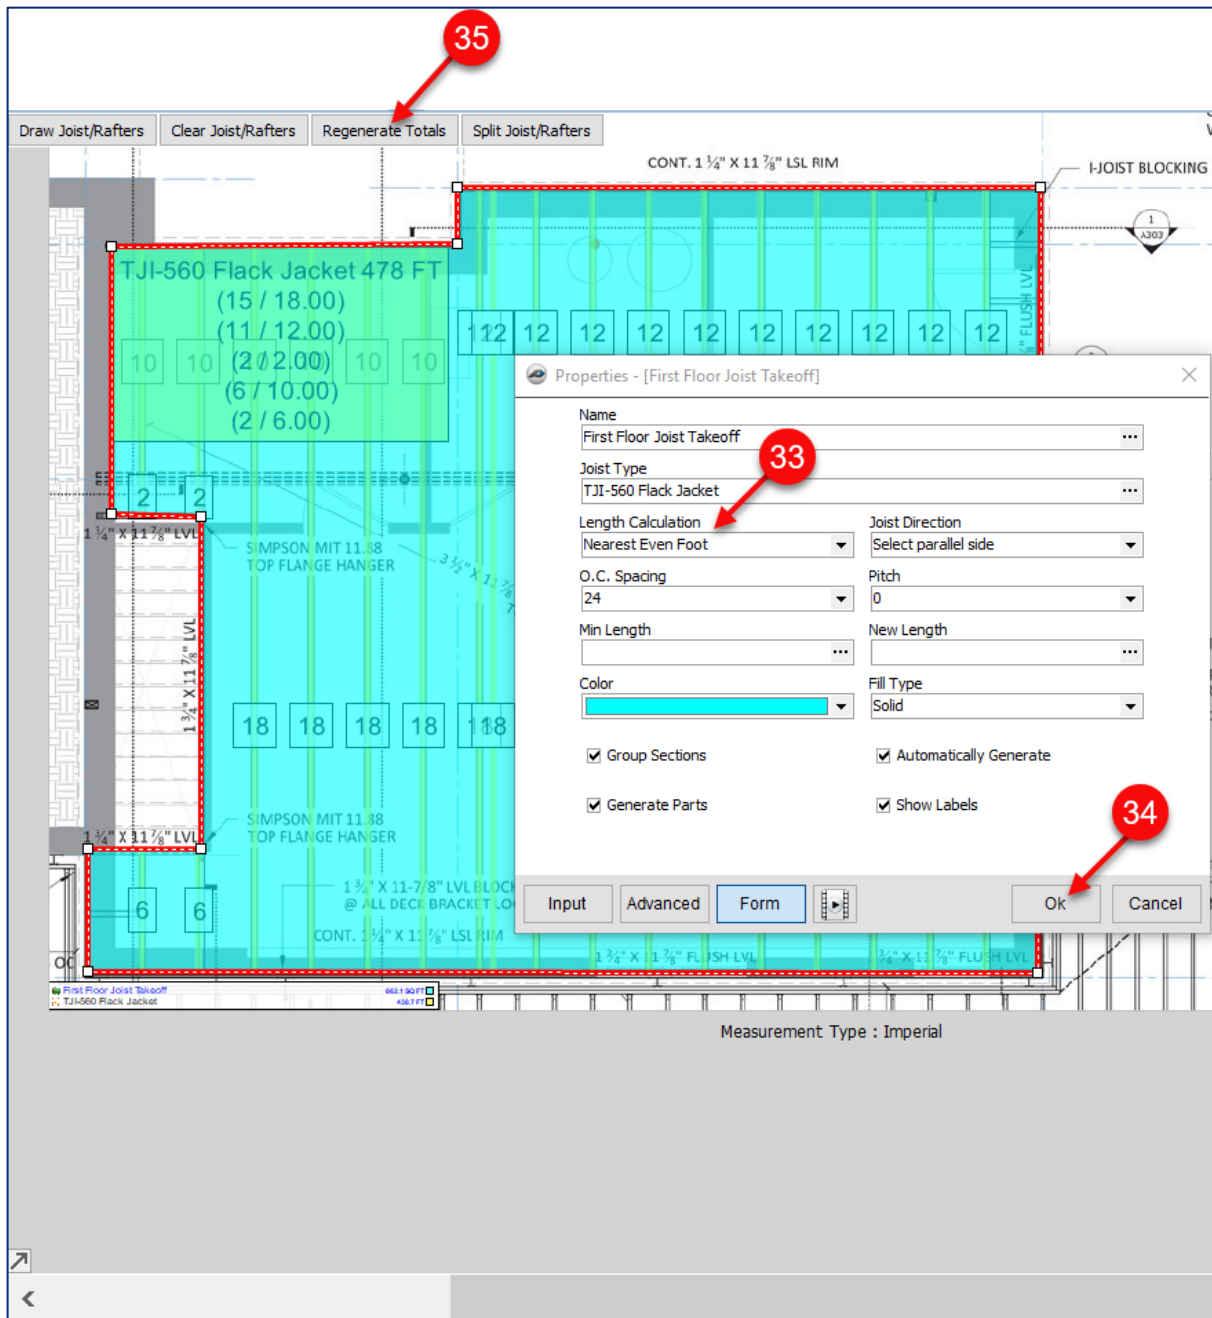

Figure 36-H
36. Click on the **Estimating** tab of the PlanSwift **Main** menu (Fig. 36-I).